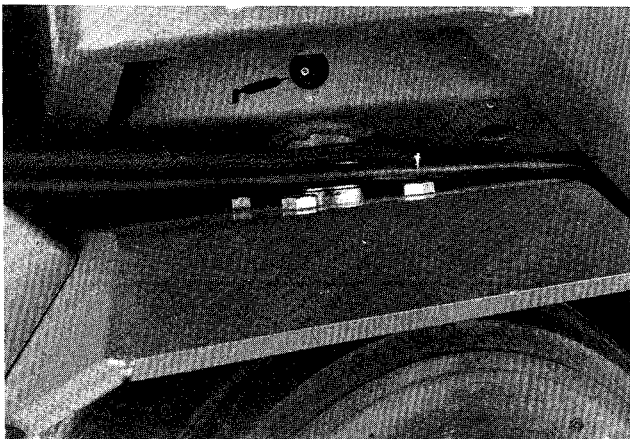
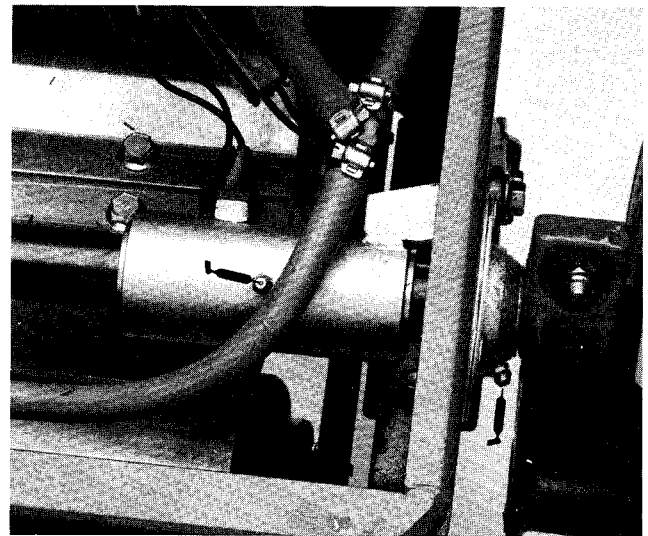
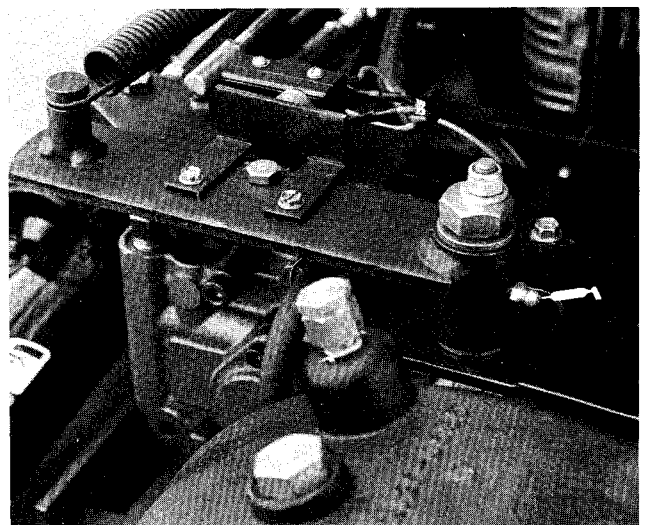

Figure 15
Figure 16
Figure 17
(Fig. 15–17)
The bearings and bushings that must be lubricated are: steering pivot shaft (Fig.15), limit switch housing (Fig. 16) (2) on lift arm shaft (Fig. 16) and neutral pivot shaft (Fig. 17) .